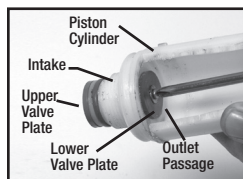

Figure 7
- 8) There are 2 valve plates on the piston cylinder, one on the inside of the cylinder and one on the outside top. The valve plates are held in place with a screw and washer and can be removed and replaced using a Phillipshead screw driver. The 2 o-rings can be removed and replaced as well. Insure that the o-rings are positioned in the o-ring grooves in the piston cylinder (Fig. 7).